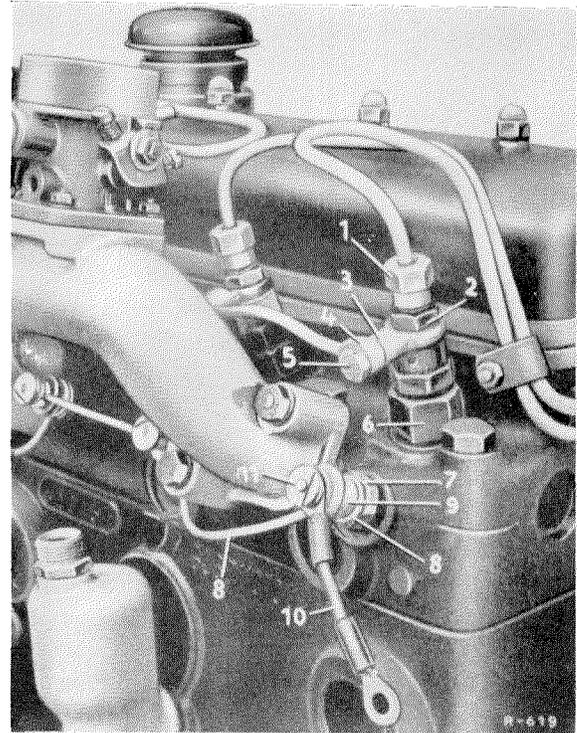

Figure 01-1/1
2. Unscrew the cap nut (1) securing the injection line (see Figure 01-1/1).
3. Unscrew the hex nut (2) securing the adapter (3) and the hollow screw (5) connecting and securing the drip-oil line (4) (Figure 01-1/1). If all 4 nozzle holders are removed, disconnect the drip-oil line at the T-section (connector of drip-oil line, by-pass line and return line) and remove the drip-oil line.
4. Unscrew the nozzle holder (1) with injection nozzle by using the Box Spanner Insert Part. No. 3125890009 and remove the sealing ring (4) (also called nozzle ring, see Figure 01-1/9). Cover the hole to keep out dust and foreign bodies.